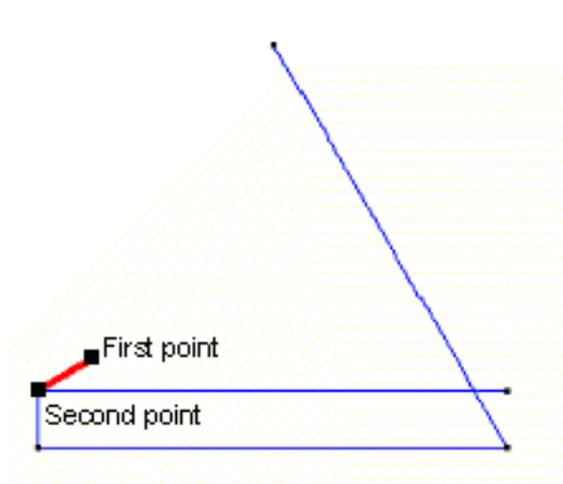

Figure 5. The line segment selected is the translation vector.
- 3 . In the **Copy** window, choose **Translation** from the **Transformation** menu and **Lines** from the **EntitiesType** menu. The translation vector for the translation to be made is the line just created. As the first point of the translation, select the point farthest from this line segment. For the second point, select the other point of the line (Figure 5). To select an existing point, you must change the "No Join / Join" option located in the contextual submenu from 3rd mouse's button menu or use the shortcut (Control-a), notice that the cursor change from a cross to a box.